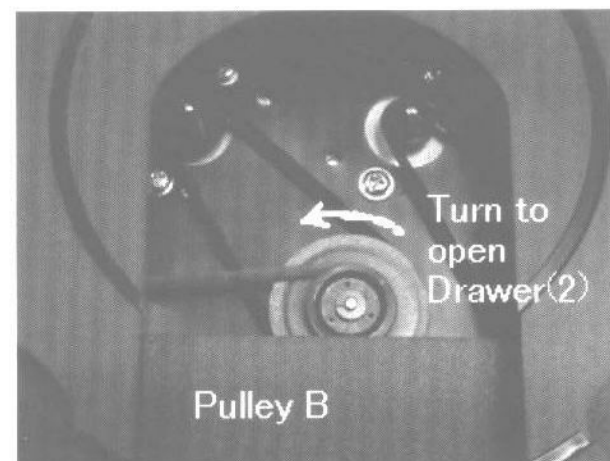
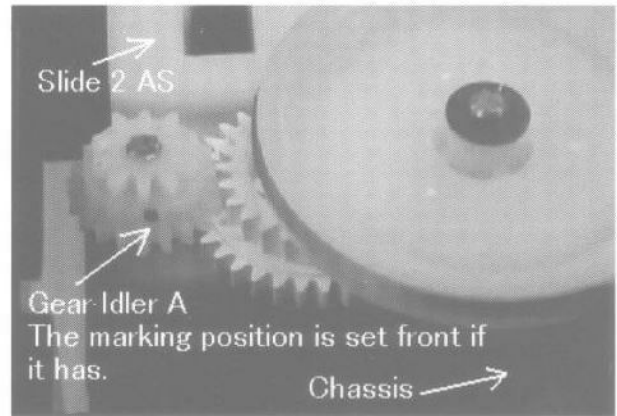
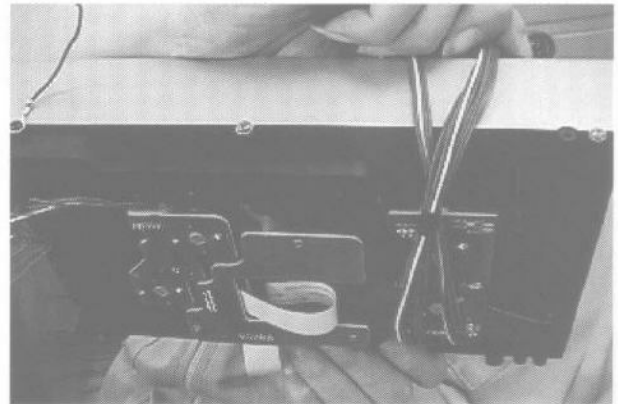

Fig.3
Fig. 11
Fig. 12
- 1) Remove 6 SCREWS(115) from COVER(23).
- 2) Turn PULLEY B(32) anti-clockwise and pull DRAWER(2) block. The DRAWER block is easily pulled out. (See Fig.3)
10) When you assemble DRAWER block with CHASSIS, it is important that linear gears in CHASSIS gang well with GEAR IDLER A(39). While GEAR IDLER A isn't ganged well, turn PULLEY B(32) (Fig. 3) a bit and make them ganged. (Take care not to turn it much. GEAR IDLER A should be in +/- 45 degrees from the center.) (See Fig. 11)
11) Push in two hooks at the both sides as they sound click. (You may fix the right side hooks first before you move Drawer block inside in item 9).
12) Put COVER(23) and mount six SCREWS(115).
13) This is a completed or removed condition. (See Fig. 12)